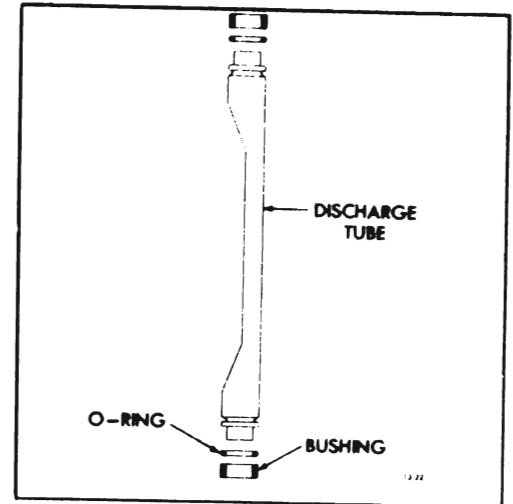

Figure 13-33 Service Replacement Discharge Tube
9. Discharge Tube - The discharge tube is used to connect the discharge cavity in the front head with the discharge cavity in the rear head. High pressure vapor discharge is channeled via the tube to the discharge cavity and port. A slightly modified discharge tube is provided to be used as a service replacement (see Figure 13-33). The service replacement tube has a reduced end and a built up shoulder to accommodate an "O" ring and bushing. These added parts achieve the necessary sealing of the high pressure vapor within the compressor.